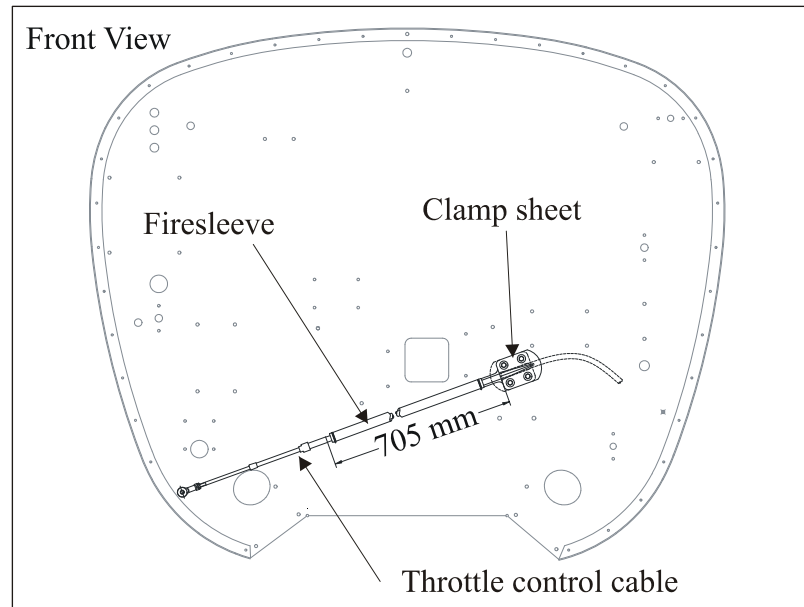

Figure 2 *Firesleeve Length*
- 1 Install throttle control cable, ensure distance between clamp sheet and clamp block is 705 mm (refer to figure 2).